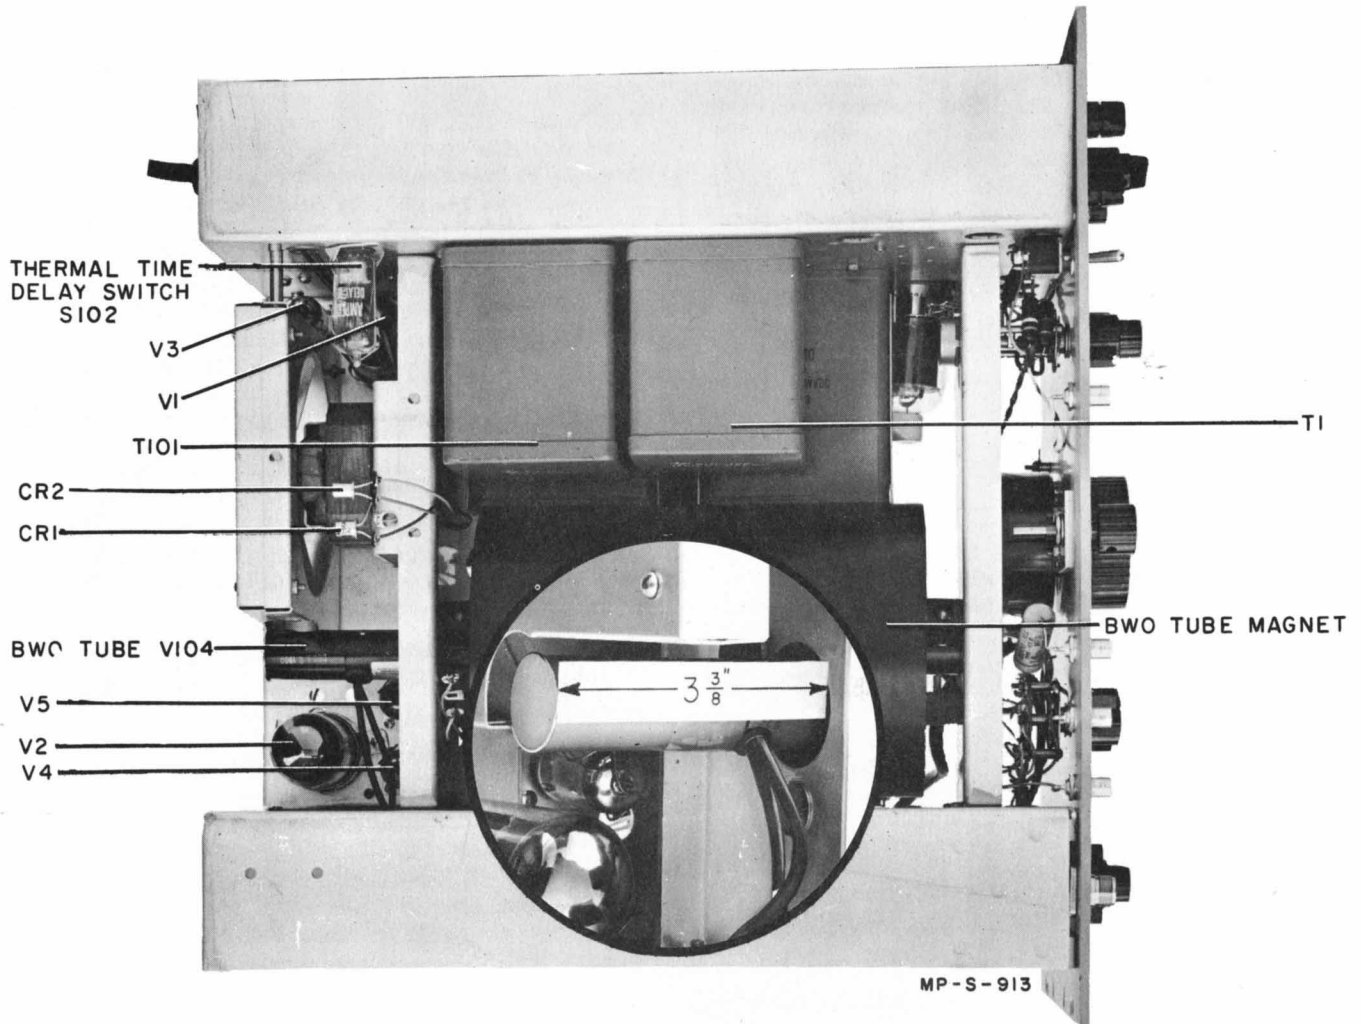
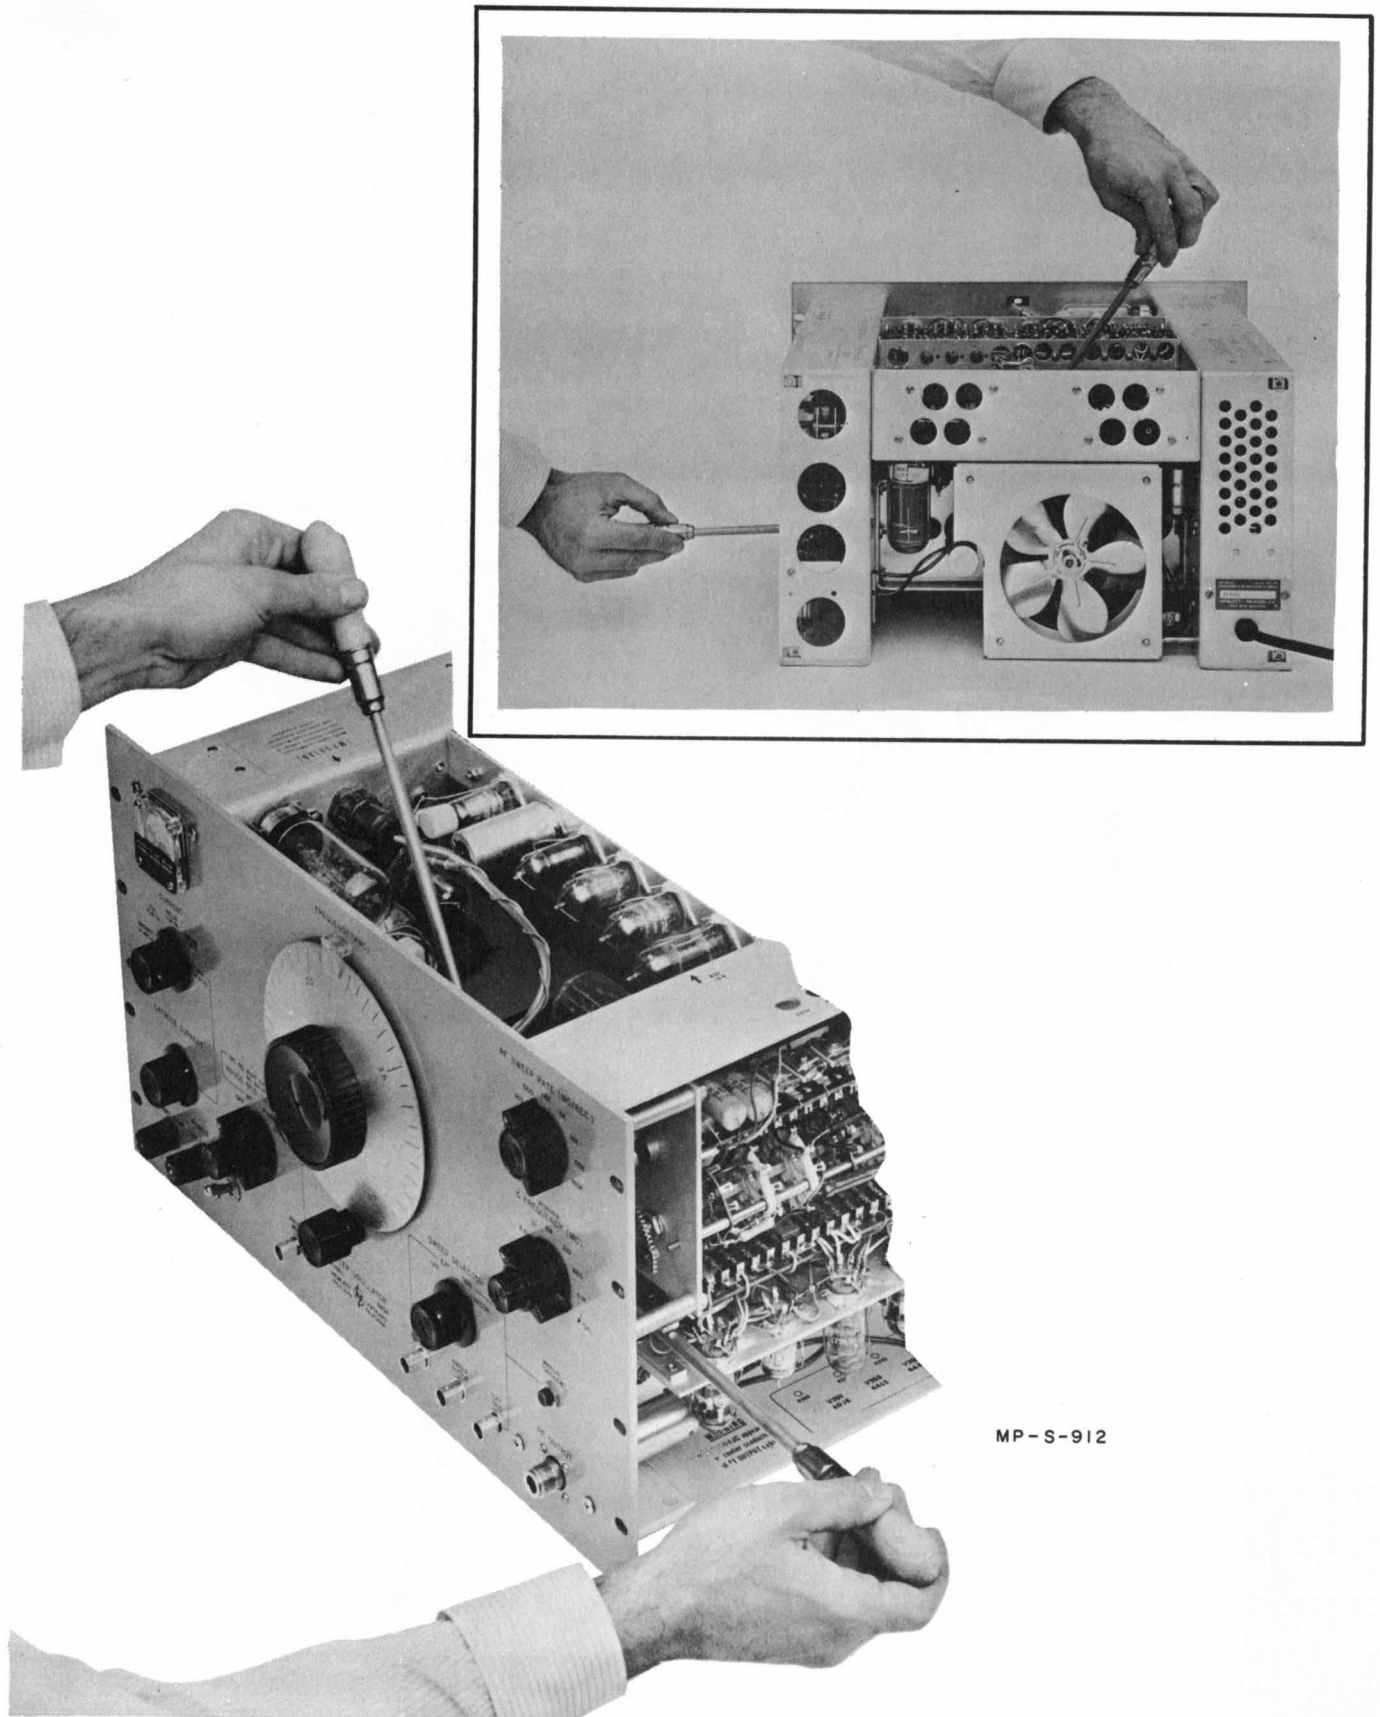

Figure 4-7. Model 683C Bottom View
Figure 4-9. Positioning the BWO Tube at the Front and Rear of Magnet
- 4) With a #10 allen wrench mounted in a driver handle 8 to 10 inches long, back off the two #10 allen screws at the front and rear of the magnet castings. Note: #10 allen drivers can be ordered from the Hewlett-Packard Company. The stock number is given in section V, Table of Replaceable Parts, under miscellaneous. (These screws bear against the tube capsule.) The front screws are easily seen and are accessible from the top and right side of the instrument. Back them off about 1/2 inch. The two rear screws are not seen so easily since they are under the top and side deck. One screw is accessible from a hole near the magnet supply resistor board on the top of the instrument, and the other through a hole above XV208 on the side of the instrument. The angle at which the wrenches make contact with the screws is indicated in figure 4-9. Looking into the magnet from the rear of the magnet, the screws may be seen. Back them off until they are out of contact with the capsule; this will be approximately 1/2 inch.
2) The two tube should be installed so that the rear of the capsule is approximately 3-3/8 inches (see figure 4-7) from the bracket which supports the magnet. The output fitting should be pointing downward to the left at an angle of about 45° (see figure 4-9).
5) Repeat the centering process with the front two screws (see figure 4-9). It is not possible to exactly center the capsule by eye with the front screws. However, it is necessary to be as close as possible before a final electrical adjustment is attempted.